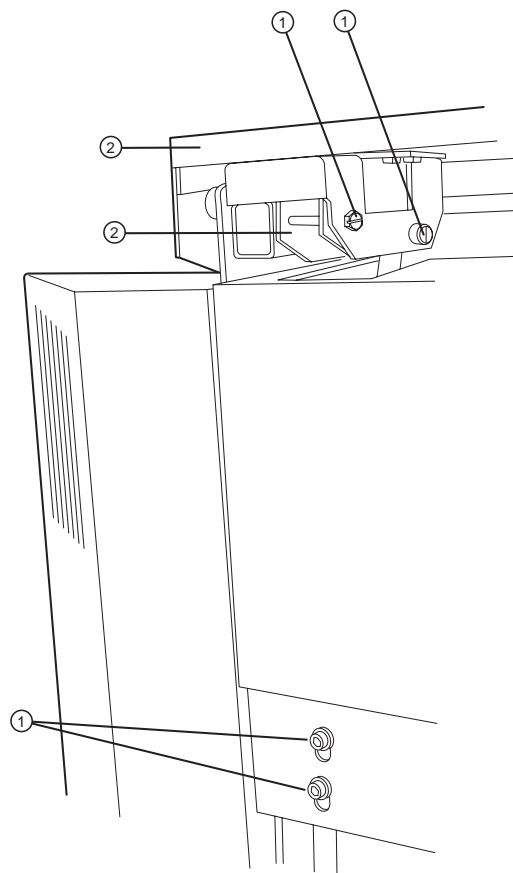

Figure 1-1 Rear of the imagesetter.
1. At the rear of the imagesetter, remove the allen screws attaching the top back panel. Refer to Figure 1-1.